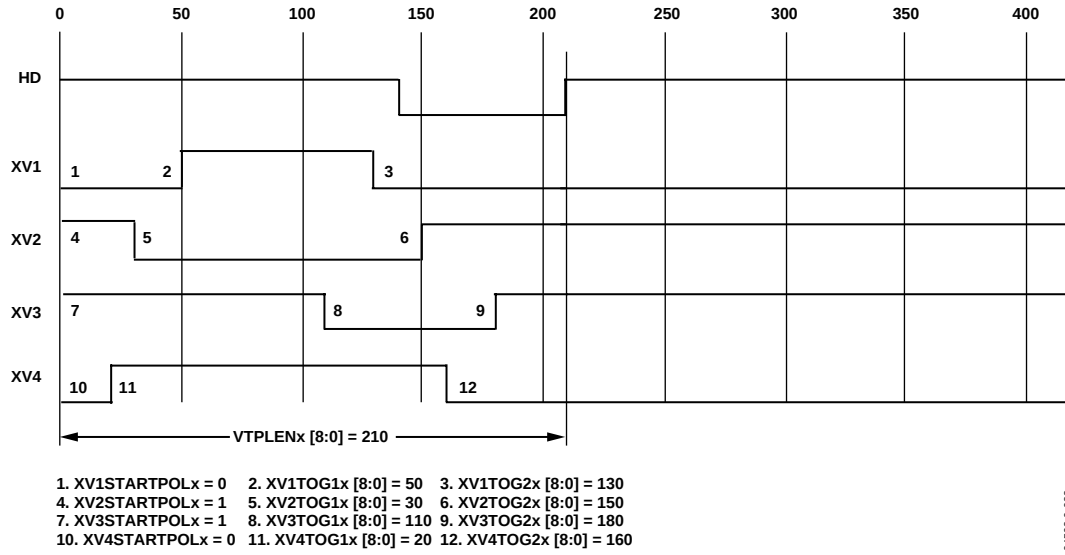
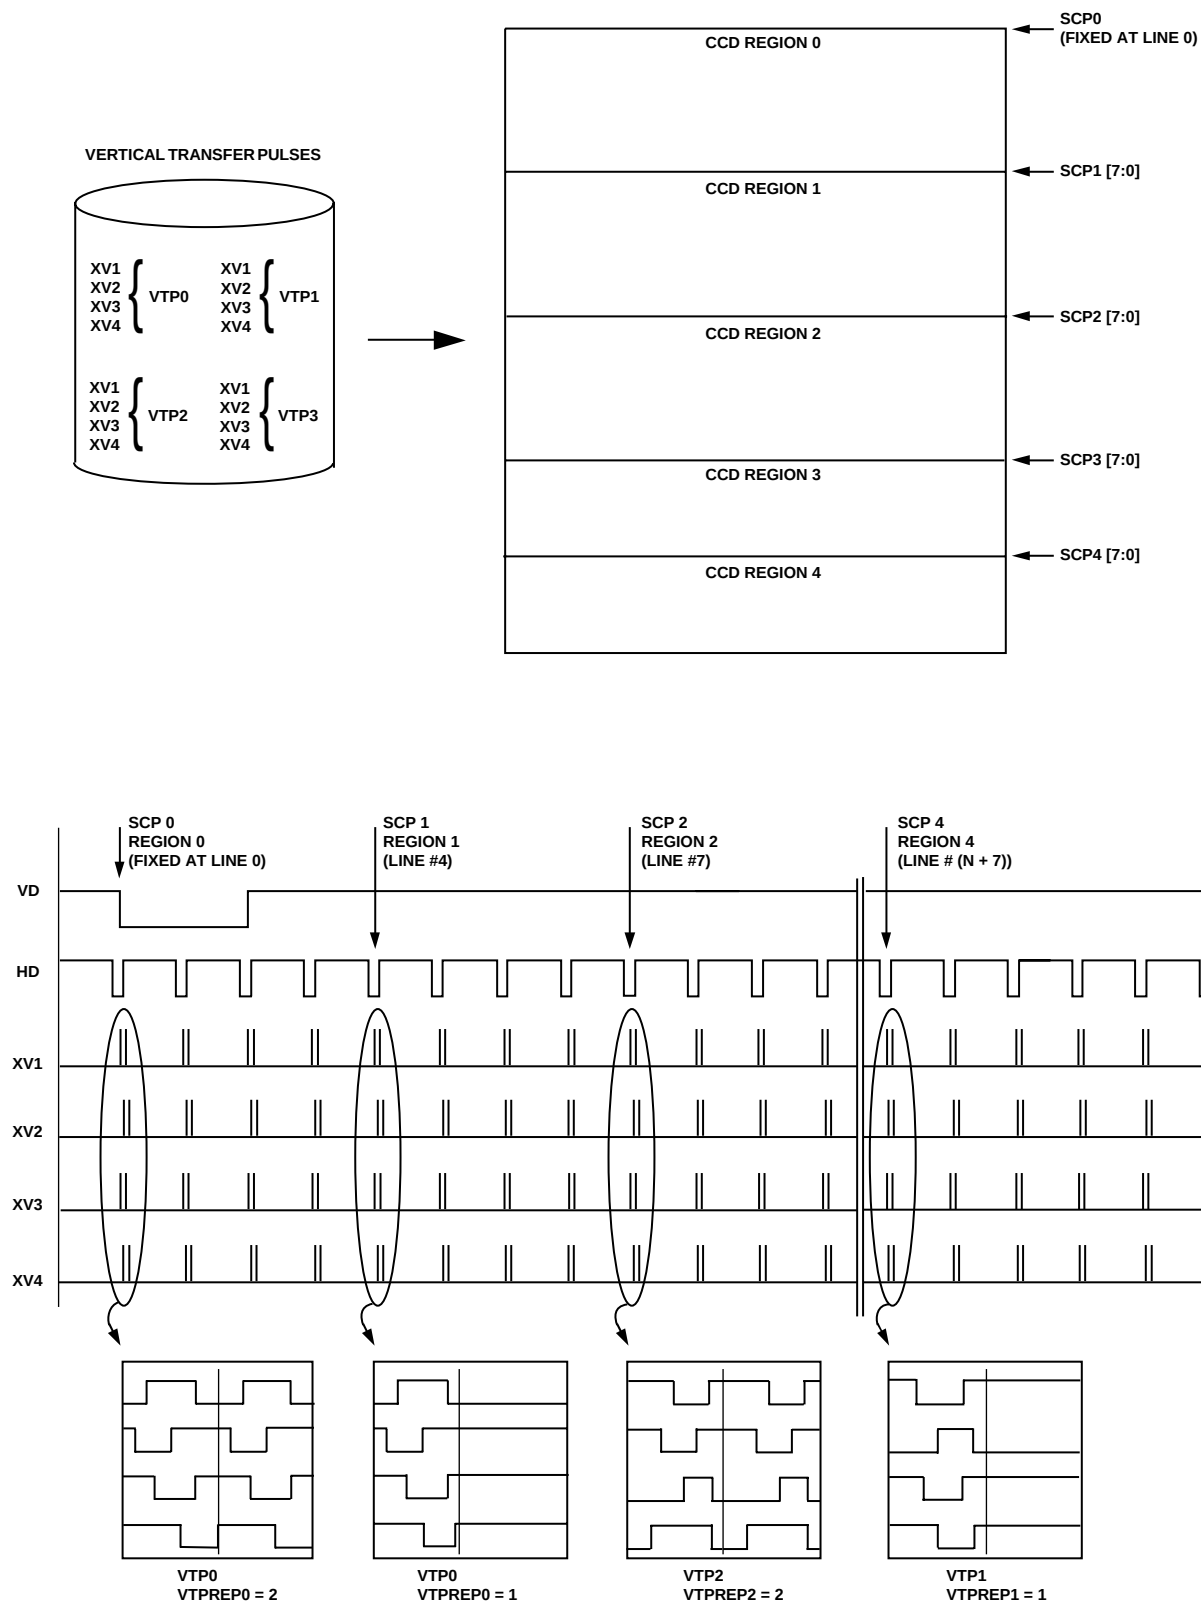
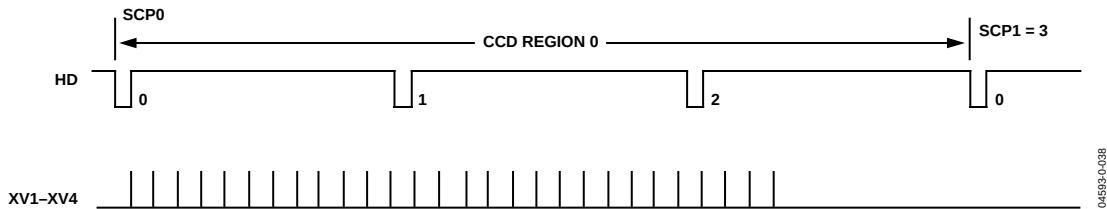
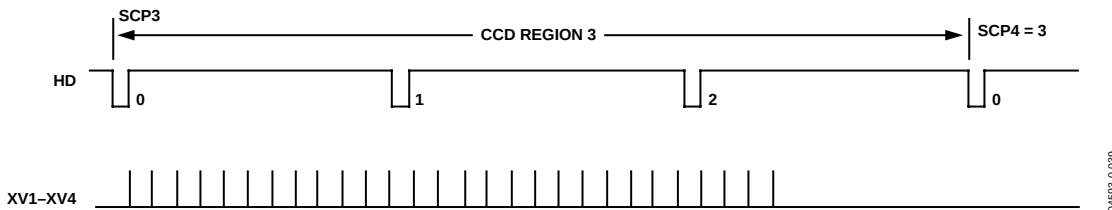

Figure 32. Step 1: Create Individual Vertical Pulses for VTP0, VTP1, VTP2, and VTP3 Patterns.
Figure 34. Steps 3 and 4: An Example of Building an Entire Field Readout by Assigning Sequences to Multiple CCD Regions
Figure 37. Sweep Mode Timing Example with SVREP_MODE = 1 and SVREP0 = 28
Figure 38. Sweep Mode Timing Example with SVREP_MODE = 2 and SVREP3 = 28
Figure 32 through Figure 34 provide an overview of how the vertical timing is generated in four basic steps.
Step 1: Create the individual pulses for patterns VTP0, VTP1, VTP2, and VTP3 (see Figure 32).
The registers shown in Table 22 are used to generate the individual vertical timing pulses, as shown in Figure 32.
Step 3: Output Vertical Sequences into CCD Regions (see Figure 34).
Step 4: Combining CCD Regions (see Figure 34).
The individual CCD regions are combined into a complete field readout by using sequence change position (SCP_x) pointers as described in Table 23. Figure 34 shows how each field is divided into multiple regions. This allows the user to change vertical timing during various stages of the image readout. The boundaries of each region are defined by the sequence change position (SCP). Each SCP is a 8-bit value representing the line number boundary region. A total of four SCPs allow up to five different region areas in the field to be defined. The first SCP0 is always hard-coded to line 0, and the remaining four SCPs are register programmable.
The special vertical sweep mode operation is only output in CCD Region 0 and CCD Region 3 (see Figure 34), as shown in Figure 37 and Figure 38. The SVREP_MODE register located at